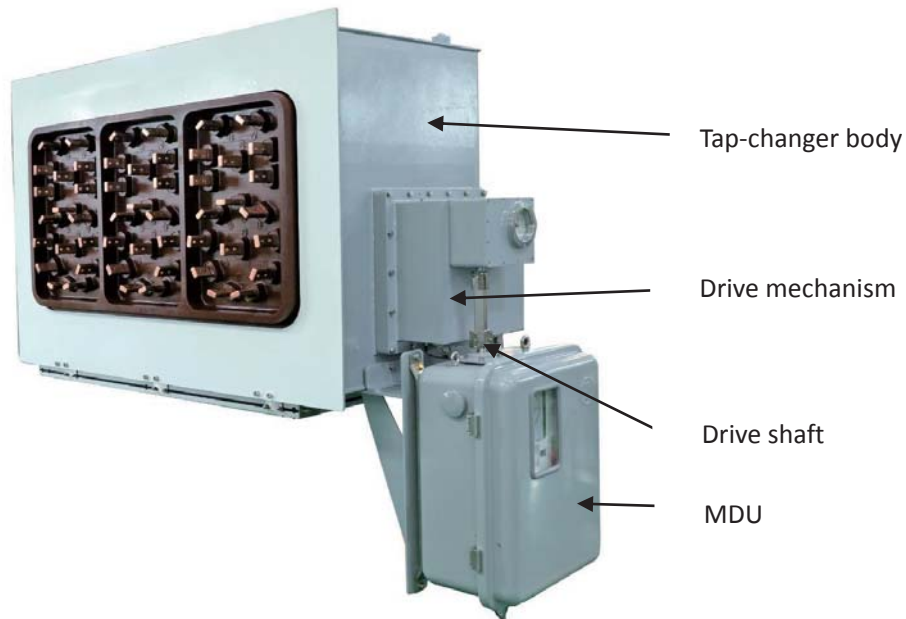

Figure 13 Drive shaft connection between MDU and drive mechanism
7.5.3 For assembly of the shaft connection between the MDU and the drive mechanism. See Figure 13.